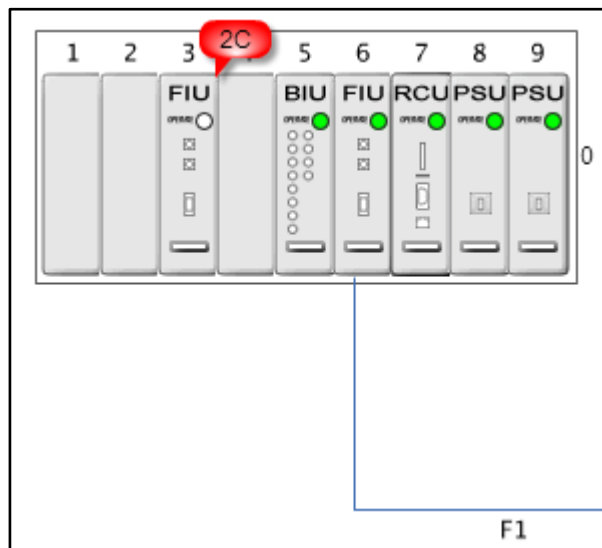

Figure 46 – Optical Link Alarms
1. Click on the CM in the topology diagram and the component window will pop up on the right as shown in Figure 46- CM Optical Power Levels.